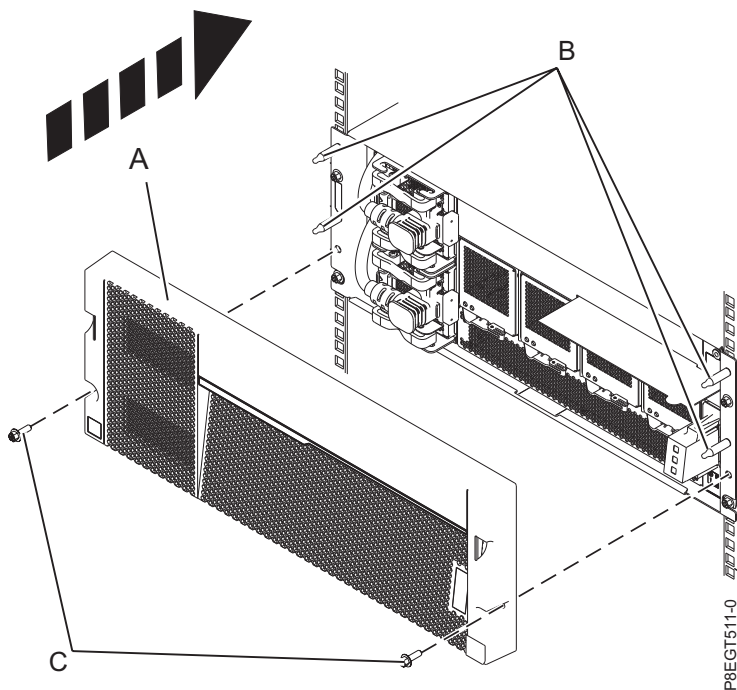

Figure 28. Replacing the front cover
2. Replace the front cover (A) by pressing the cover onto the locating pins (B). If the cover had screws (C) when the cover was removed, secure the cover with the screws. See Figure 28.